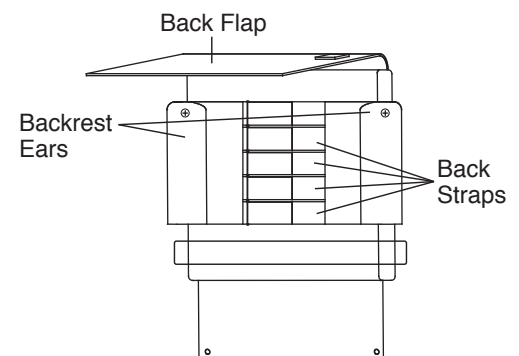

Figure 39
1. Lift the back flap to expose the back straps/backrest ears (which are adjustable using “hook & loop” material). See Figure 39.
2. Remove the back upholstery from the backrest ears and straps. See Figure 39.
3. If replacing the ears, remove the screw that secures each backrest ear to the back canes. See Figure 39.
2. Remove the back upholstery from the Velcro backrest ears and straps. See Figure 39.